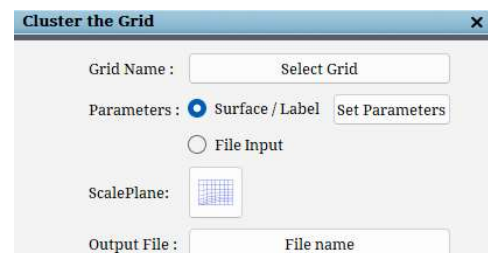

Figure 5.49: Clustering dialog box
If clicked on the **Clustering** button, a dialog box opens in the pop-up section, as shown in Figure 5.49. Grid Name will have the list of grid file names loaded into the UI. If the UI has only one grid, it automatically reads the same. The clustering parameters can be provided in two ways.
**Precision** defines the number of digits to be written for each coordinate. Single represents 8 digits, and double represents 16. Once the parameters are set, click on the '**set parameters**' button at the bottom and click '**Apply**' in the main dialog box as in Figure 5.49.
The parameters can also be imported into the table from a fra file or text file using the Import values dropdown. It can also be imported by selecting the '**File Input**' option in the Clustering dialog box as in Figure 5.49.